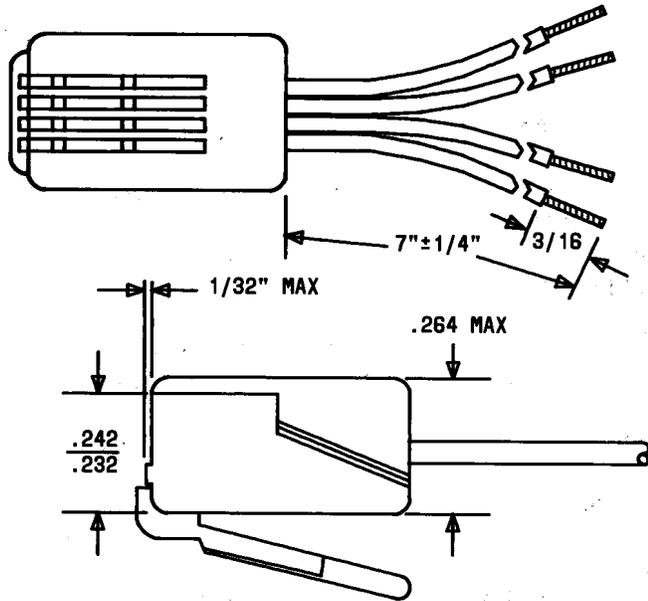

Fig. 5—521A Plug
2.05 521A: The 521A (Fig. 5) is a four-conductor, self-locking, thermoplastic plug with four teflon-insulated leads. The 521A plug is used as a connector for the KS-20930, L2, battery pack which is the dc power source of the 870A1M, 872A1M, 2870A1M and 2872A1M TOUCH-A-MATIC® telephone sets.